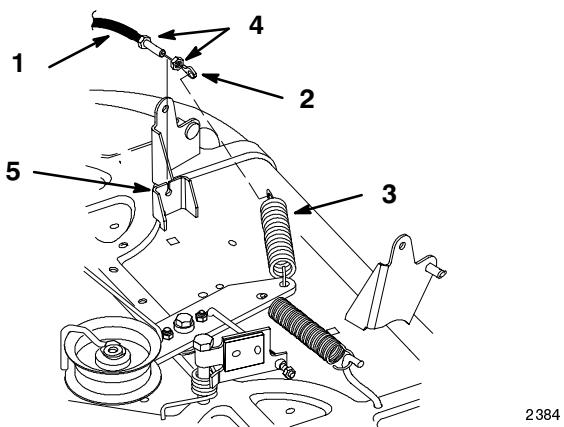

Figure 37
6. Unhook the blade control (PTO) cable ring end from the idler spring (Fig. 37).
7. Remove rubber wiper and jam nut from blade control (PTO) cable at mounting bracket. Slide the cable from the bracket (Fig. 37).